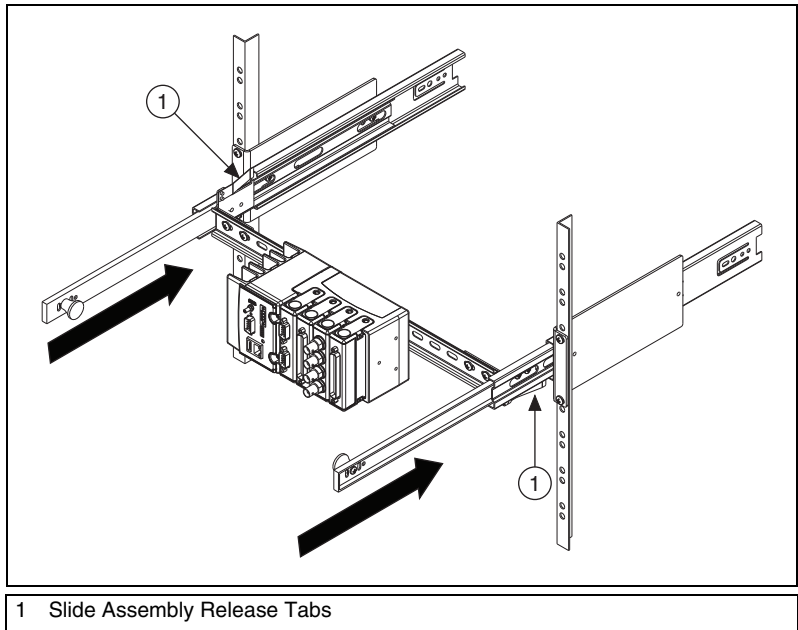

Figure 7. Pushing the Slide Assemblies into the Rack
- Press the release tabs on the slide assemblies and push the slides back into the rack. The release tabs are located on the top of the left slide assembly and on the bottom of the right slide assembly, as shown in Figure 7. A friction detent holds the slides in the closed position.